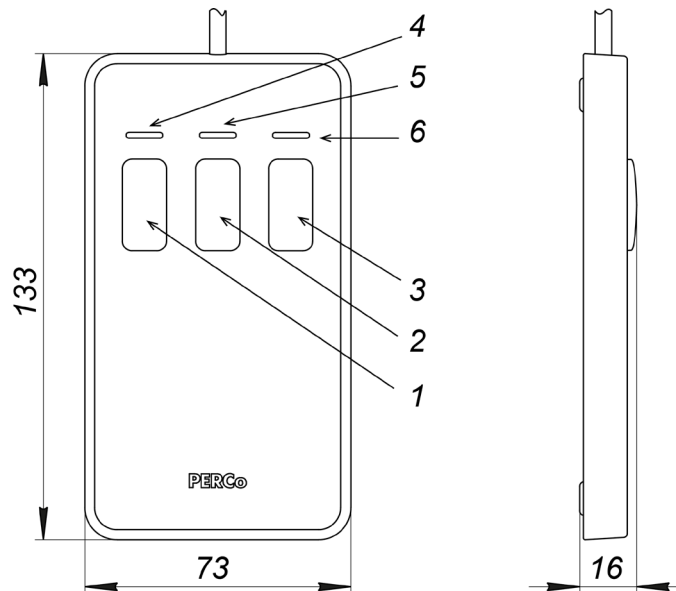

Figure 10. Overall view and dimensions of the RC-panel
RC-panel (17) is a small table device made of shockproof ABS plastic. RC-panel is designed for speed gate operation in the manual mode, in which the operator sends commands to the equipment. The overall view of the RC-panel is shown in Fig. 10.